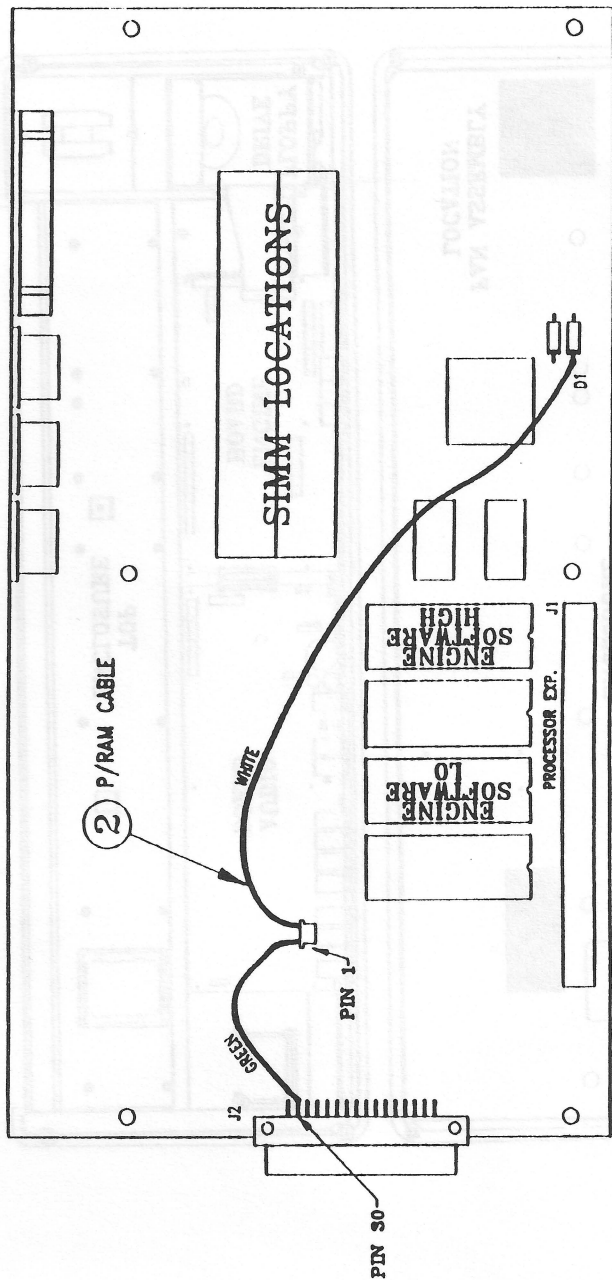

FIGURE 2
- 5 Figure 2 shows a closeup of the K2000 Engine board. Refer to Figure 2 and locate Pin 30 on the Engine board connector labeled J2. Pin 30 is located toward the rear of the unit. (It's the second pin from the back edge of J2, in the row toward the center of the board.) Take the P-RAM Option Kit cable (Item 2) and solder its green wire to Pin 30.
- 7 Locate the 64-pin connector labeled "PROCESSOR EXP" (J1) near the left front corner of the Engine board. See Figure 2.